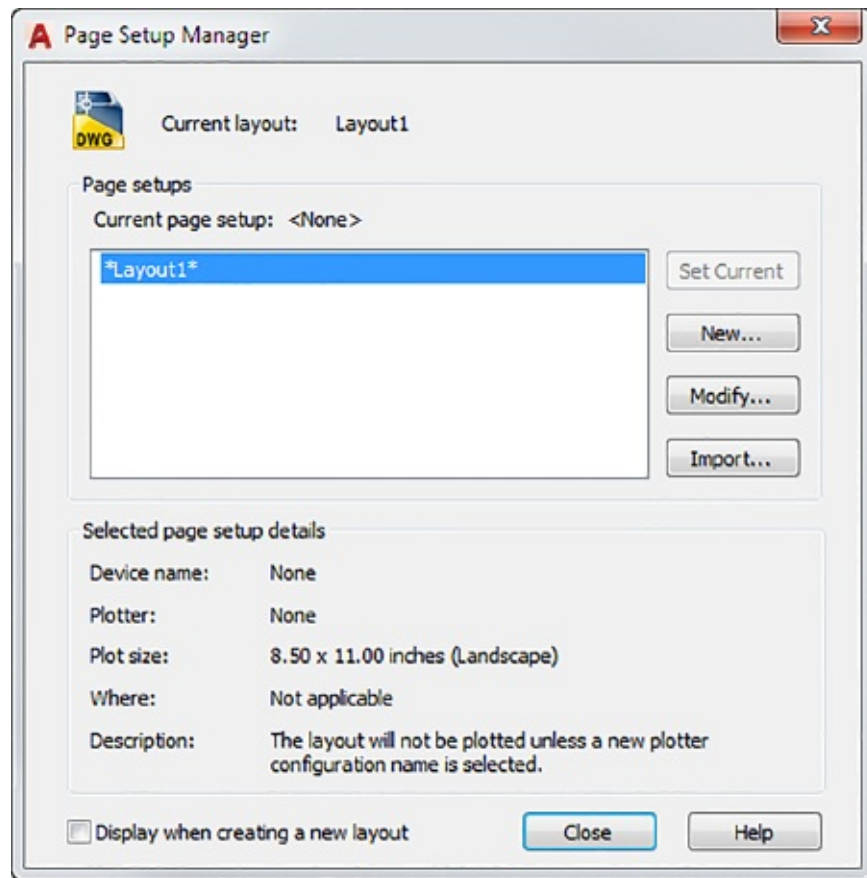

FIGURE 8.14 The Page Setup Manager
1. In AutoCAD, click the Page Setup Manager tool in the Output tab's Plot panel. The Page Setup Manager dialog box opens (see Figure 8.14). So far, you've used only the Modify option in this dialog box to modify an existing page setup. Now you'll try creating a new setup.